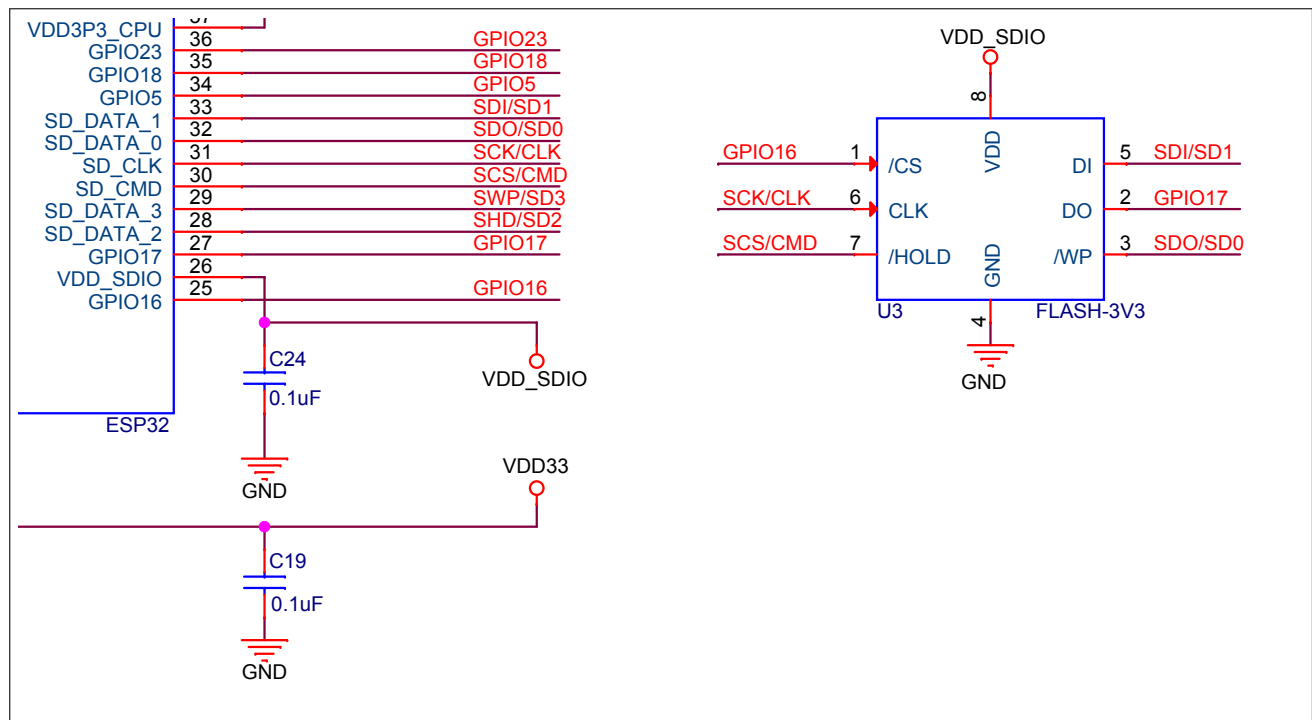

Figure 2: Schematic for Quad 3.3 V SiP Flash
- In cases when quad 3.3 V SiP flash (such as ESP32-U4WDH) is used, please refer to Figure 2 for its core schematic.